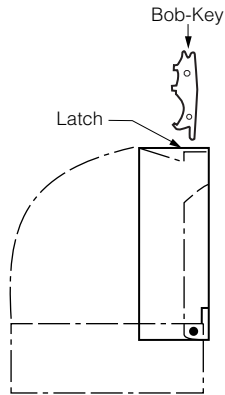

FIGURE 1
1. Insert BobKey into hole on top of tissue dispenser cover. Push in to release latch that locks cover to hinged mounting plate. See Figure 1.